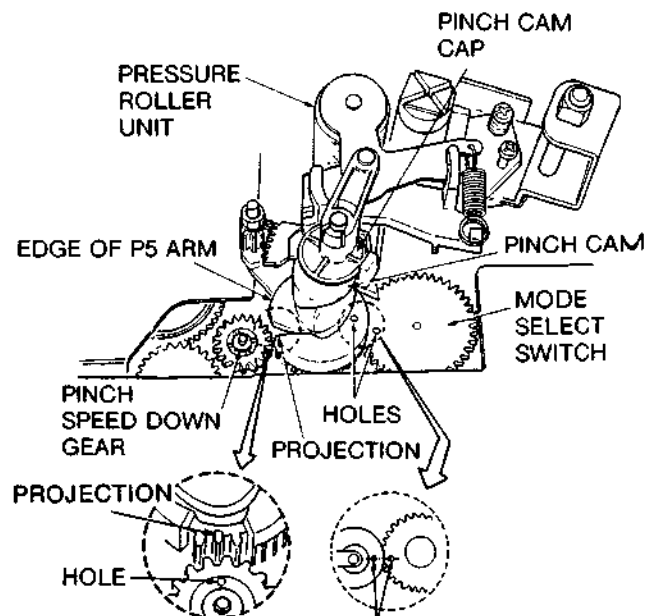

Fig.4-12
- install pinch cam pos. no. 51(1) so that the edge of P5 arm comes into the rift of pinch cam and the projection of pinch cam is exactly in line with the hole of pinch speed down gear, at this time, the hole of mode select switch pos. no. 55(1) is exactly in line with the hole of pinch cam as shown in Fig. 4-12.